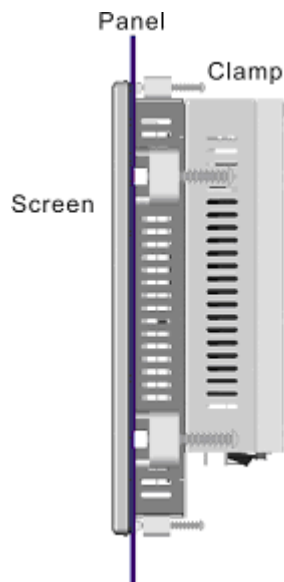

Figure 3-28: Tighten the Panel Mounting Clamp Screws
Step 4: Insert the panel mounting clamps into the pre-formed holes along the edges of the panel PC, behind the aluminum frame (**Figure 3-28**). There are a total of 8 panel mounting clamps for PPC-3708A-N26 and 10 clamps for PPC-3710A-N26.
Step 5: Tighten the screws that pass through the panel mounting clamps until the plastic caps at the front of all the screws are firmly secured to the panel (**Figure 3-28**).